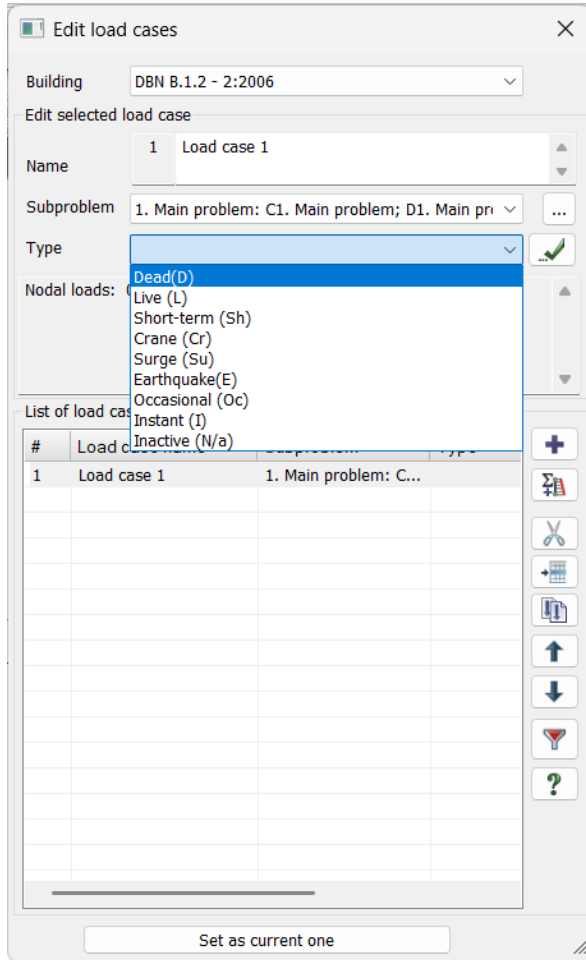

Fig. 37 – Load Editor dialog box
– Edit Load cases on the **Loads** panel, Create and edit tab. The **Load Editor** dialog box will appear (Fig. 37), in which for load 1 in the Edit selected load field, you must select the Constant ribbon from the **View** list and click the button .